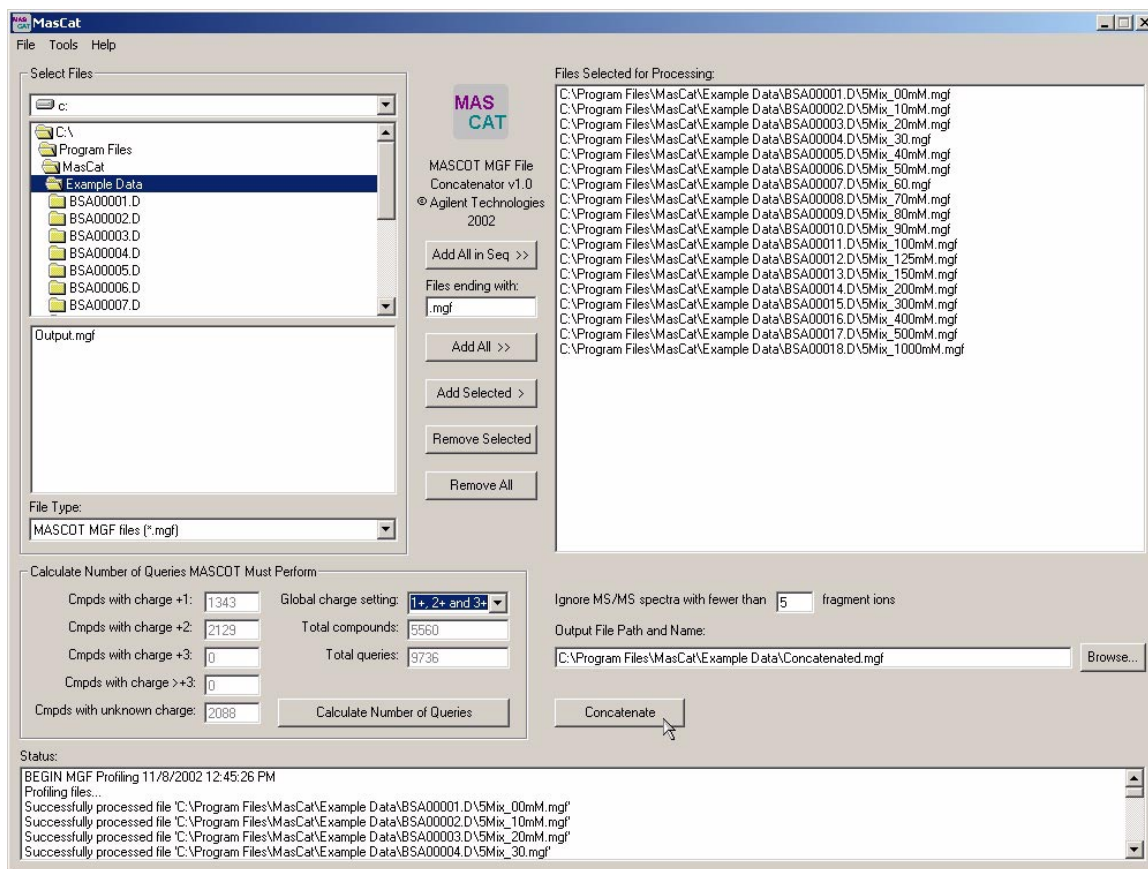

Figure 20 MASCAT concatenator to combine *.mgf files from multiple sample fractions
- 2 Select data files you wish to combine. See Figure 20 as an example.